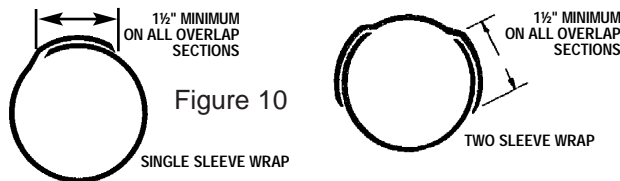

Figure 10
NOTE: More than one size may be used to complete an installation. The sleeves must overlap by at least 1-1/2 inches. (See figure 10)
- f. Hold the center section of the sleeve beginning on either side of the point of the largest splice circumference; stretch the first edge out from the center and around the splice. Repeat on the other side. Press the sleeve firmly onto the splice. (See figure 10.)